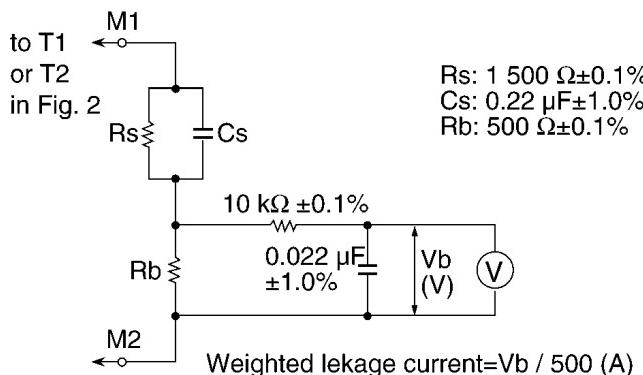

Fig. 1
- Prepare the measuring circuit as shown in Fig.1.